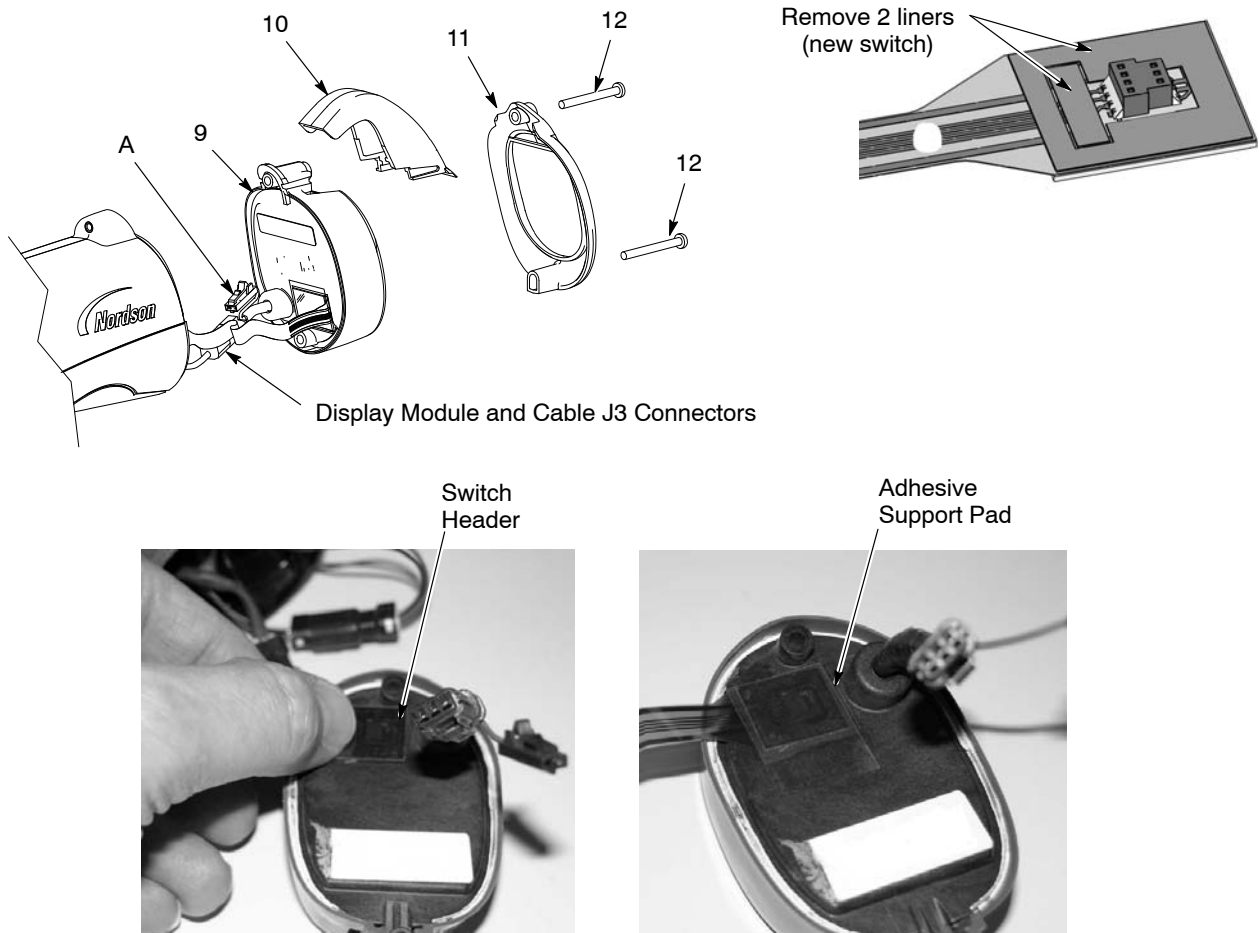

Figure 5-1 Display Module Replacement
1. See Figures 5-1 and 5-3. Unscrew the top and bottom screws (12) holding the bezel (11), hook (10) and display module (9) onto the gun body.
1. On the display module (9), carefully clean the trigger switch header mounting surface and surrounding area with isopropyl alcohol. Allow the surface to dry completely before proceeding.
2. If you are installing a new trigger switch, remove the two liners from the connector side of the trigger switch header as shown in Figure 5-1.
1. See Figure 5-1. Remove the display module as described in *Display Module Replacement*.